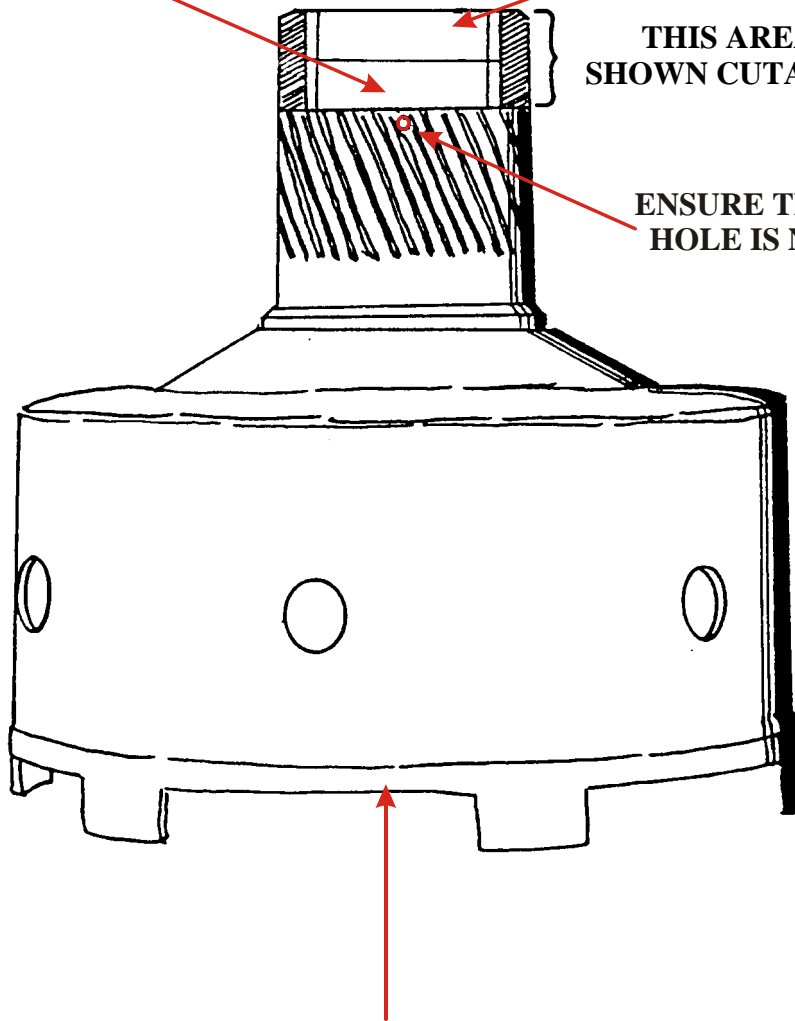

Figure 5
5. Install "Double Bushings" at the rear of sun gear as shown in Figure 5. After both bushings are in place, ensure that lube oil hole in the sun gear is not blocked.